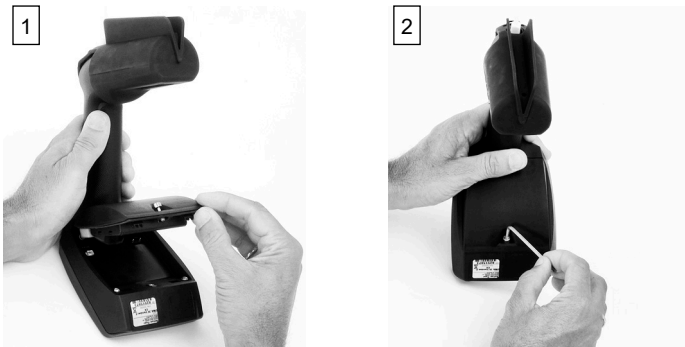

Fig. 2: Mounting the battery compartment
1. Slide the supplied battery compartment into its position on the back of the instrument's display (see fig. 2).